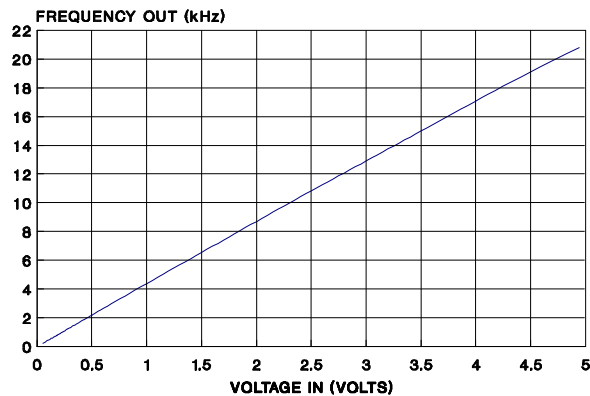

FIGURE 4: VCO IN, Voltage vs. Frequency
2. Place the RED meter lead on (between) the Sense Resistors (labeled Rs in Figure 4).